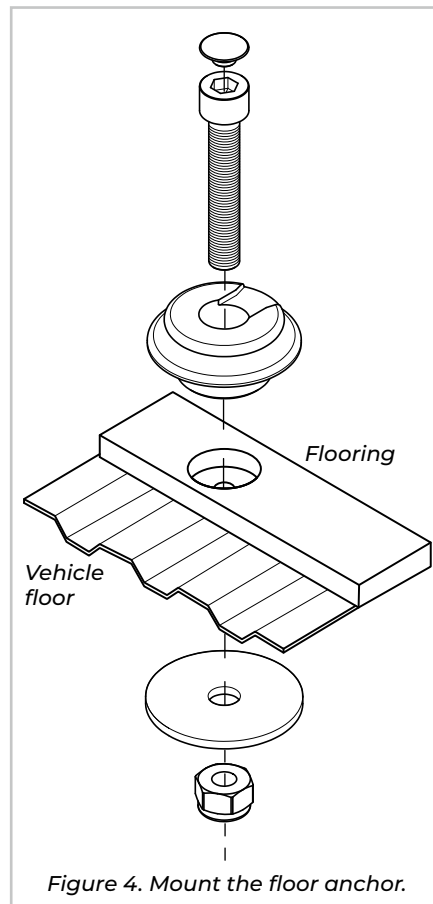

Figure 4. Mount the floor anchor.
- 5** Mount the floor anchor through the layers as shown in Figure 4.